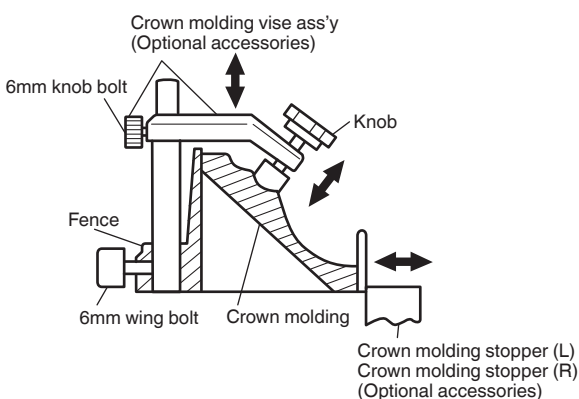

Fig. 40-b
- (1) Crown molding Stopper (L) and (R) (optional accessories) allow easier cuts of crown molding without tilting the saw blade. Install them in the base both-sides side to be shown in Fig. 40-a. After inserting Tighten the 6mm knob bolts to secure the crown molding Stoppers.